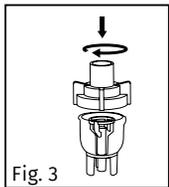

Fig. 3
5. Gently twist the top part clockwise to re-assemble the nebulizer bottle. Be sure the two sections fit well (Figure 3).